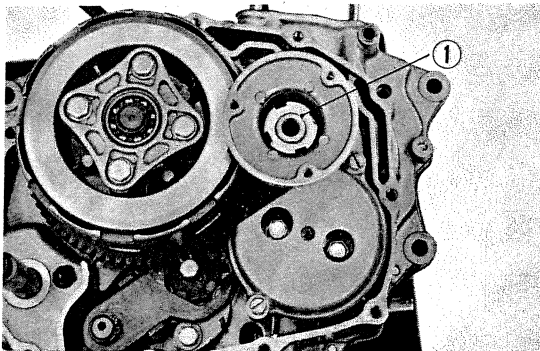

Fig. 63 Lock nut tightening
- 5) Mount the oil filter rotor with the 16mm lock nut. (Fig. 63)